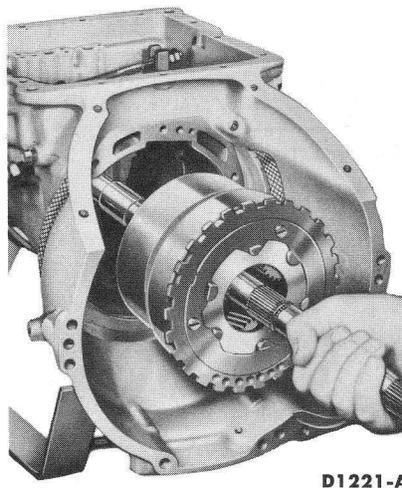

FIG. 4—Output Shaft Removal or Installation
6. Pull on the primary sun gear (turbine) shaft and remove the integral pinion carrier and output shaft, and the reverse ring gear (Fig. 4) from the case.